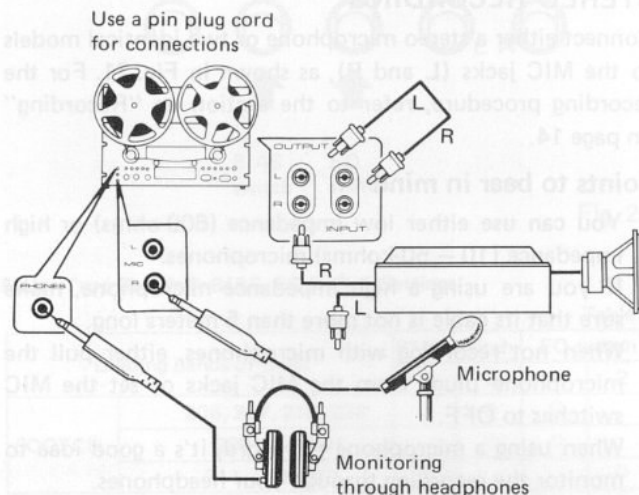

Fig. 23
1. Connect the R INPUT terminal with the L OUTPUT terminal on the rear panel of the RT-909. (Refer to Fig. 23).
7. Rewind the tape to start position, then start the microphone recording, all the while listening to the L channel playback sound through the headphones. Table 2 shows the differences in the lighting indication of the fluorescent (FL) tube level meter during recording and in the OUTPUT terminal signals based on the positions of the MONITOR switch.